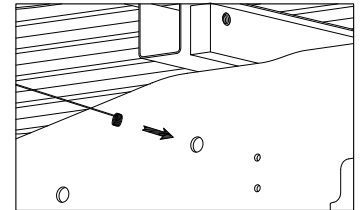
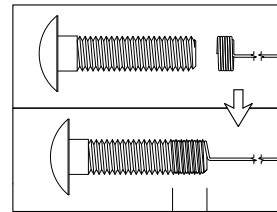
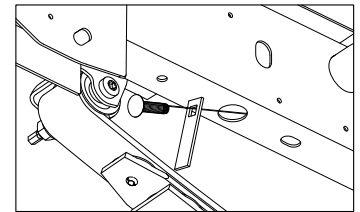

FIGURE C2: View from outside of Driver Side Frame.
FIGURE C3: fish wire diagram.
FIGURE C4: View looking up at rear of driver side frame
- 2. Fish carriage bolts through frame.** A fish wire will be required to install the 1/2" X 2" Carriage bolts which hold each sideplate in place. Start by locating the mounting hole in the side of the frame, shown below in figure C2. Feed the coiled end of the fish wire through the hole until it is visible in the 1-1/2" hole near the back of the frame as shown in figure C4. Attach a locking strap and the 1/2" X 2" carriage bolt to the fish wire as shown in figures C3 & C4. The locking strap should not be inserted into the bolt while passing through the frame. Once attached, carefully pull the fish wire back through the frame. Pull the carriage bolt out of the hole in the frame, ensure that the carriage bolt has been pulled all the way through the locking strap and the bolts rotation is restricted.